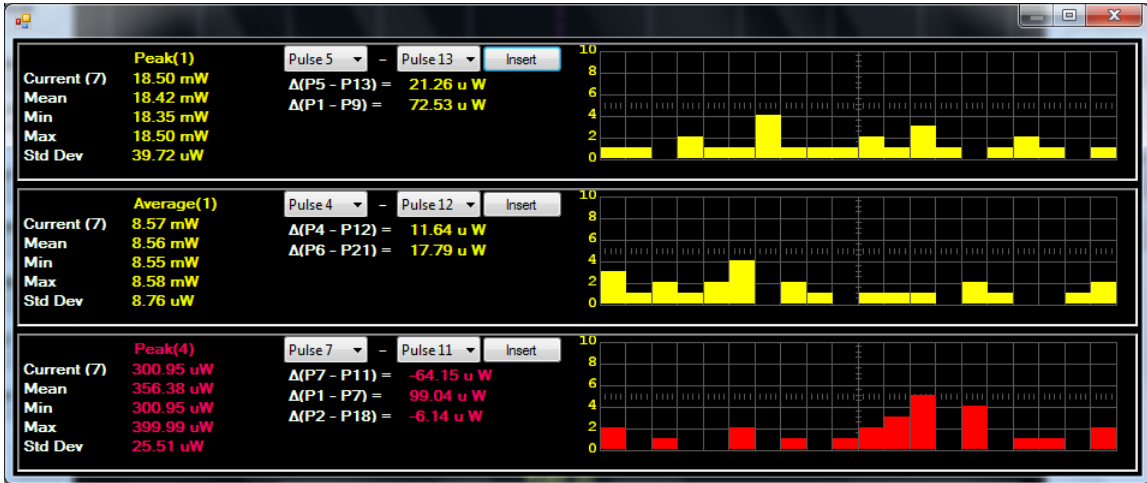

Figure 2-96 Multipulse measurement view dialog
- 5 Select the **L** button to display the measurement view in a separate dialog as shown in Figure 2-96.